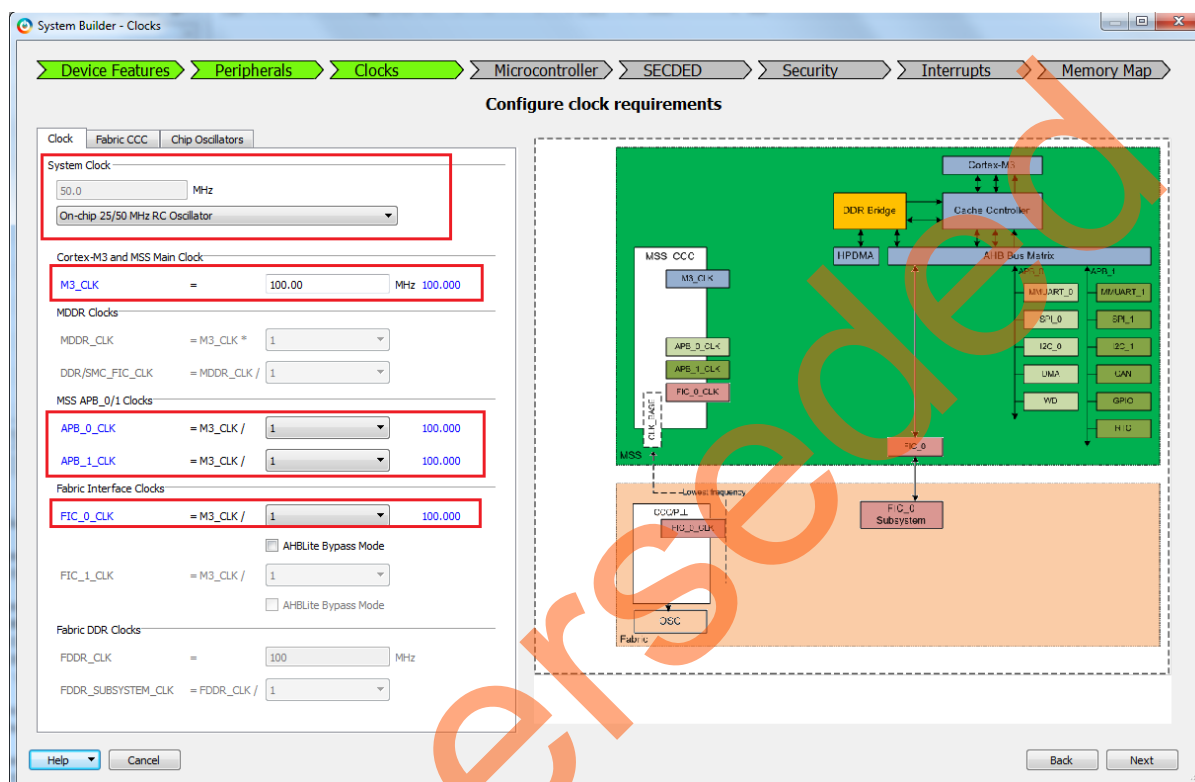

Figure 16 • SmartFusion2 System Builder Clocks
22. Select **Next**. **System Builder- Clock Settings** page is displayed, as shown in Figure 16. Select the following options: